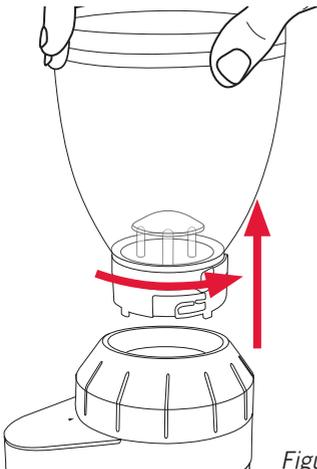

Figure 20
1. Remove the bean hopper from the motor base and store unused beans in an airtight container to preserve their freshness, see figure 20.
1. Ensure the coffee grinder is switched off and unplugged from the power outlet. Remove the bean hopper from the motor base, push down and turn anti-clockwise. See figure 20.